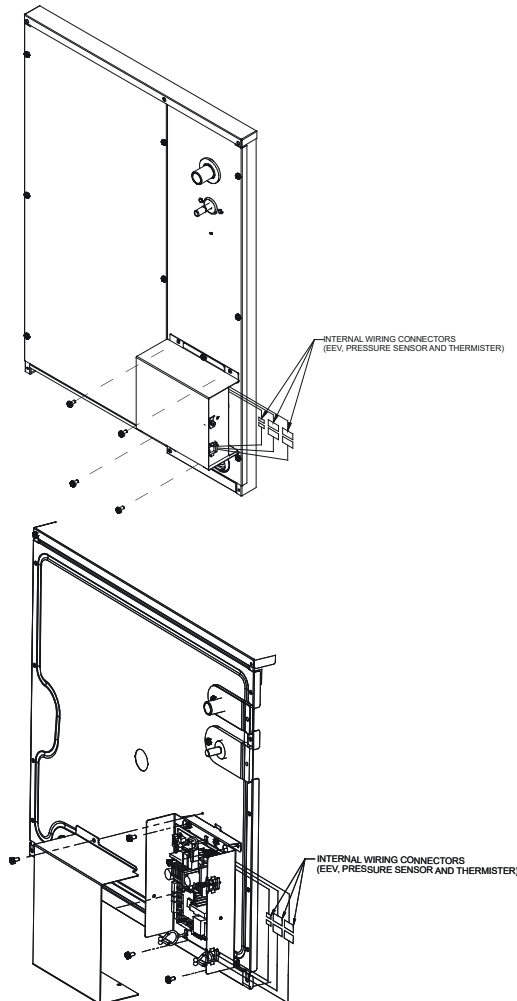

Figure 4
- Disconnect the control panel wiring from component wiring using the EEV, Pressure sensor and Thermistor connectors located on the outside of the control panel. See Figure 4.